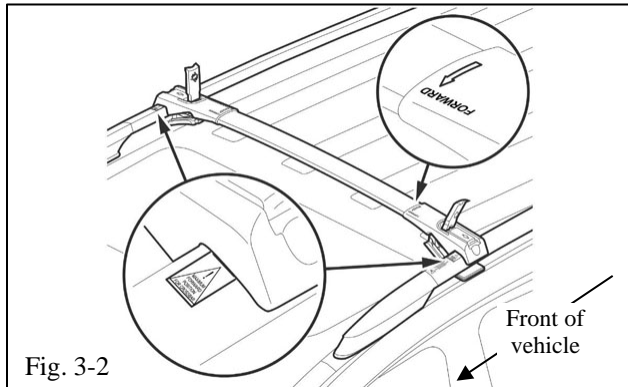

Fig. 3-2
- (c) Straighten the crossbar so that the front of the support touches the line on the “forward limit” warning label (2 places) (Fig. 3-2).
- (d) Make sure the FORWARD arrows on the crossbar supports are pointing toward the front of the vehicle (Fig. 3-2).